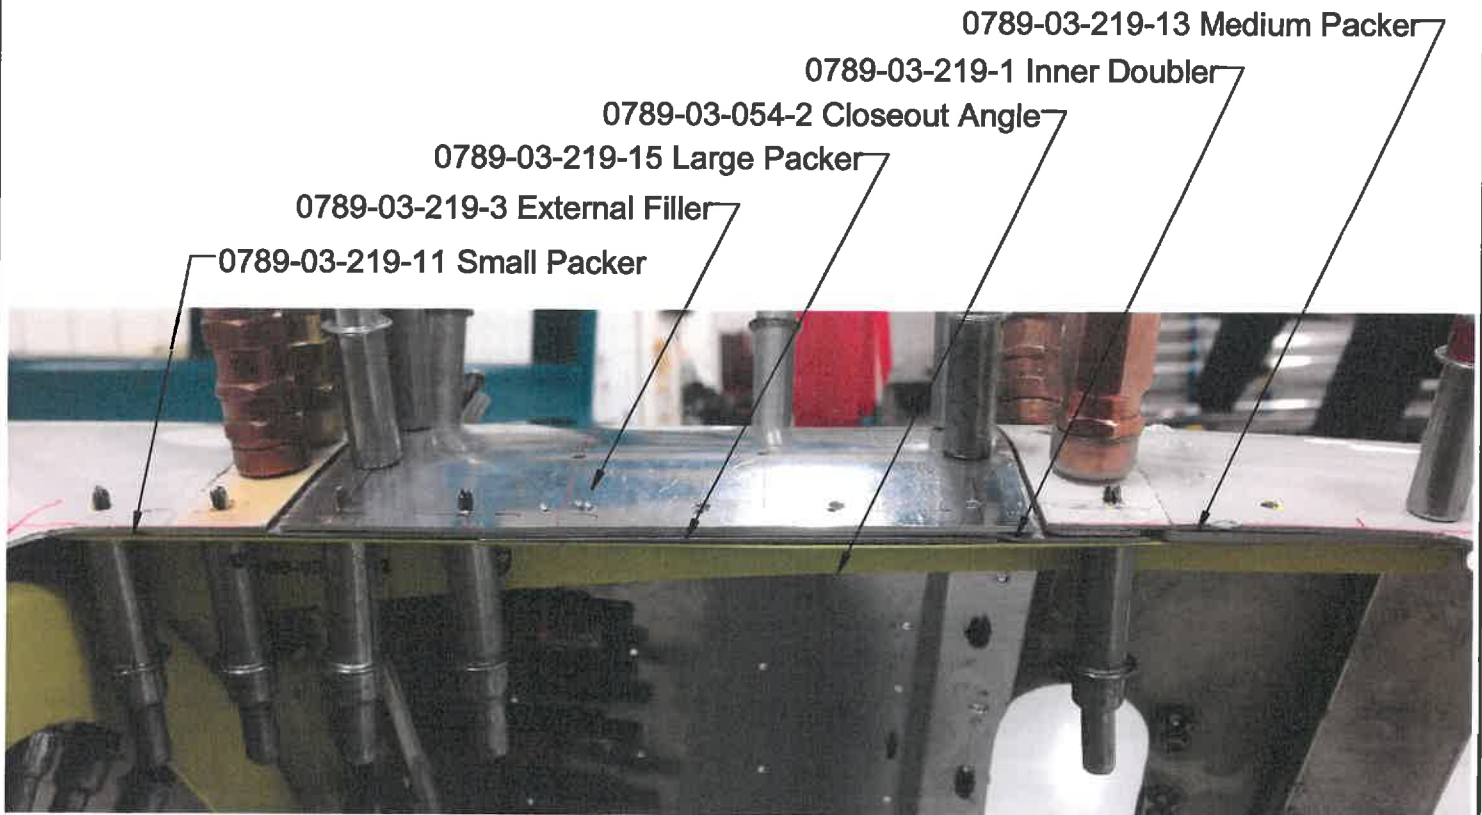

Figure 5: 0789-03-219-11/-13/-15 Packer Installation
15. Locate 0789-03-054-2 Angle per 0789-02-050 (see IIN-E407-789 for details). Fit 0789-03-219-11, 0789-03-219-13 and 0789-03-219-15 Packers between 0789-03-054-2 Angle and aircraft skin/doubler per Figure 5.